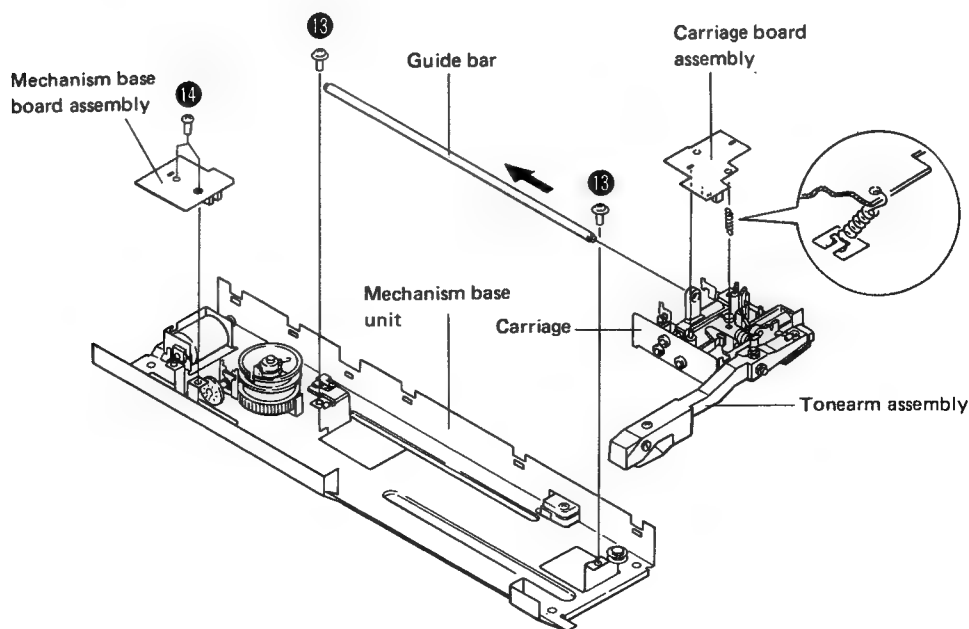

Fig. 5-2 Carriage Removal
1. Remove the fixer from the carriage and the wire from the pulley. (See Figure 5-2)
2. Remove the screw ⑬ and pull the guide bar away from the carriage in the direction indicated by the arrow. The carriage and tonearm assembly can now be removed.
3. Removing the spring will release the carriage board assembly, and removing screw ⑭ will release the mechanism base board assembly.